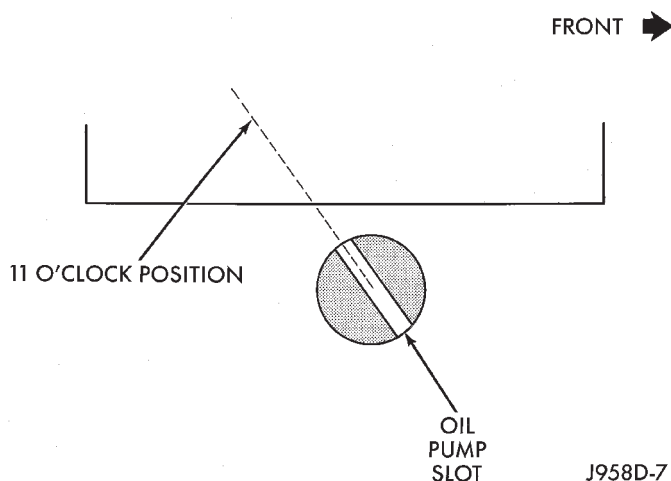

Fig. 43 Slot At 11 O'clock Position—4.0L Engine
(11) Note the removed position of the rotor during distributor removal. During installation, this will be referred to as the Pre-position.
(12) Observe the slot in the oil pump gear through the hole on the side of the engine. It should be slightly before (counterclockwise of) the 11 o'clock position (Fig. 43).
(1) If the engine crankshaft has been rotated after distributor removal, cylinder number 1 must be returned to its proper firing stroke. Refer to previous REMOVAL Step 5 and Step 6. These steps must be done before installing distributor.
(2) Check the position of the slot on the oil pump gear. It should be just slightly before (counterclockwise of) the 11 o'clock position (Fig. 43). If not, place a flat blade screwdriver into the oil pump gear and rotate it into the proper position.